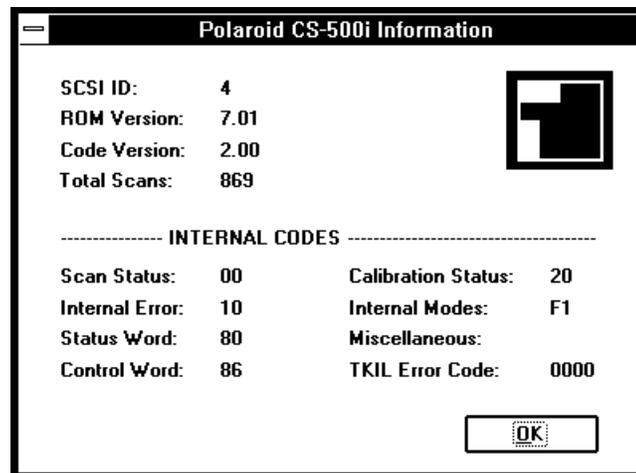

Figure 6-9. Typical Scanner Internal Information Codes
3. Select More from the Control Panel, then select Codes to display the internal information codes (Figure 6-9).